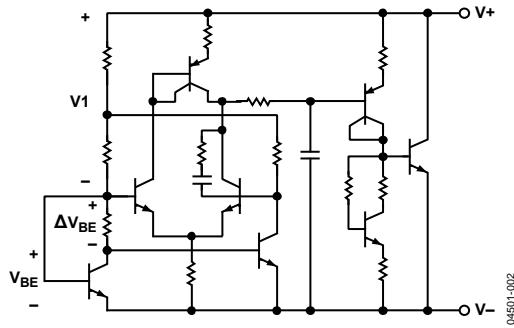

Figure 18. Circuit Schematic
The ADR520/ADR525/ADR530/ADR540/ADR550 use the band gap concept to produce a stable, low temperature coefficient voltage reference suitable for high accuracy data acquisition components and systems. The devices use the physical nature of a silicon transistor base-emitter voltage ( $V_{BE}$ ) in the forward-biased operating region. All such transistors have approximately a  $-2 \text{ mV}/^\circ\text{C}$  temperature coefficient (TC), making them unsuitable for direct use as low temperature coefficient references. Extrapolation of the temperature characteristics of any one of these devices to absolute zero (with the collector current proportional to the absolute temperature), however, reveals that its  $V_{BE}$  approaches approximately the silicon band gap voltage. Thus, if a voltage develops with an opposing temperature coefficient to sum the  $V_{BE}$ , a zero temperature coefficient reference results. The ADR520/ADR525/ADR530/ADR540/ADR550 circuit shown in Figure 18 provides such a compensating voltage ( $V_1$ ) by driving two transistors at different current densities and amplifying the resultant  $V_{BE}$  difference ( $\Delta V_{BE}$ , which has a positive temperature coefficient). The sum of  $V_{BE}$  and  $V_1$  provides a stable voltage reference over temperature.